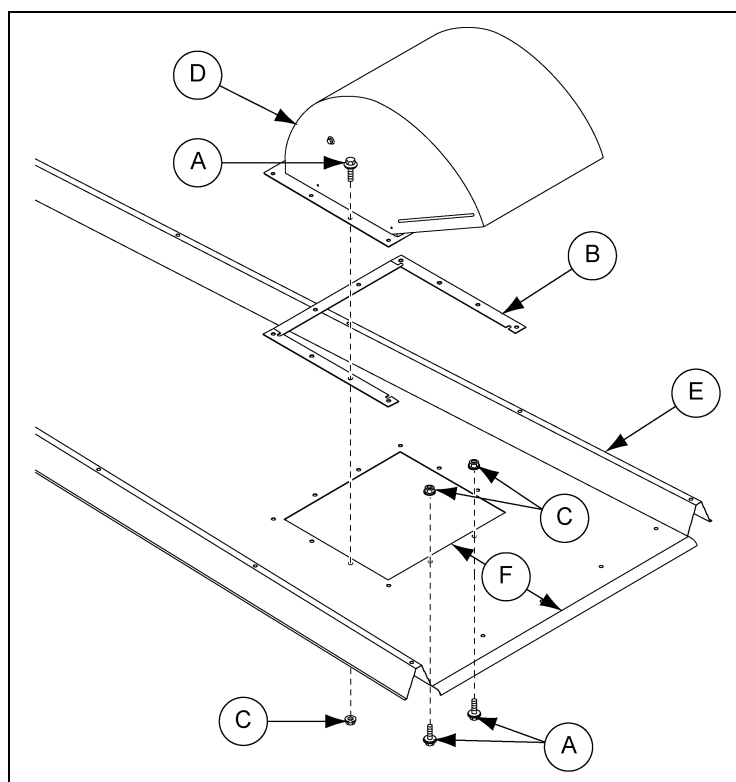

Figure 2 Exploded View of Vent Housing to Roof Panel
1. If the roof panel (E) does not have a pre-punched hole for the roof vent assembly (D), a hole must be cut. The cut hole should match the roof vent assembly (D). The hole's inside edge should be approximately 15" (F) from the roof panel eave.
2. Place the three (3) foam strips (B) on the roof panel (E), as shown and position the roof vent assembly (D) over the foam strips (B). Install bolts (A) and nuts (C), securing the roof vent assembly (D) to the roof panel (E).
3. Install bolts (A) and nuts (C) from the underside of the roof panel (E) securing the front of the hold-down angle to the roof panel as shown in Figure 2. Tighten the hardware to the recommended torque specifications. See bolt torque specifications.